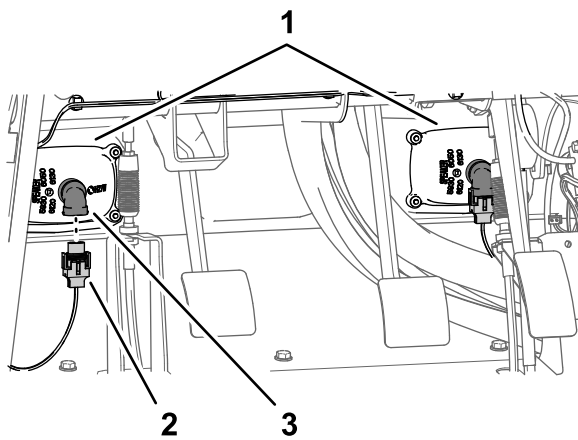

Figure 214
3. Connect the 2 electrical connectors (2-socket) of the machine wire harness from the 2-pin connectors of the left and right headlights (Figure 214).
1. Align the inner-fender shroud to the left, upper- and left, lower-frame tubes (Figure 214).